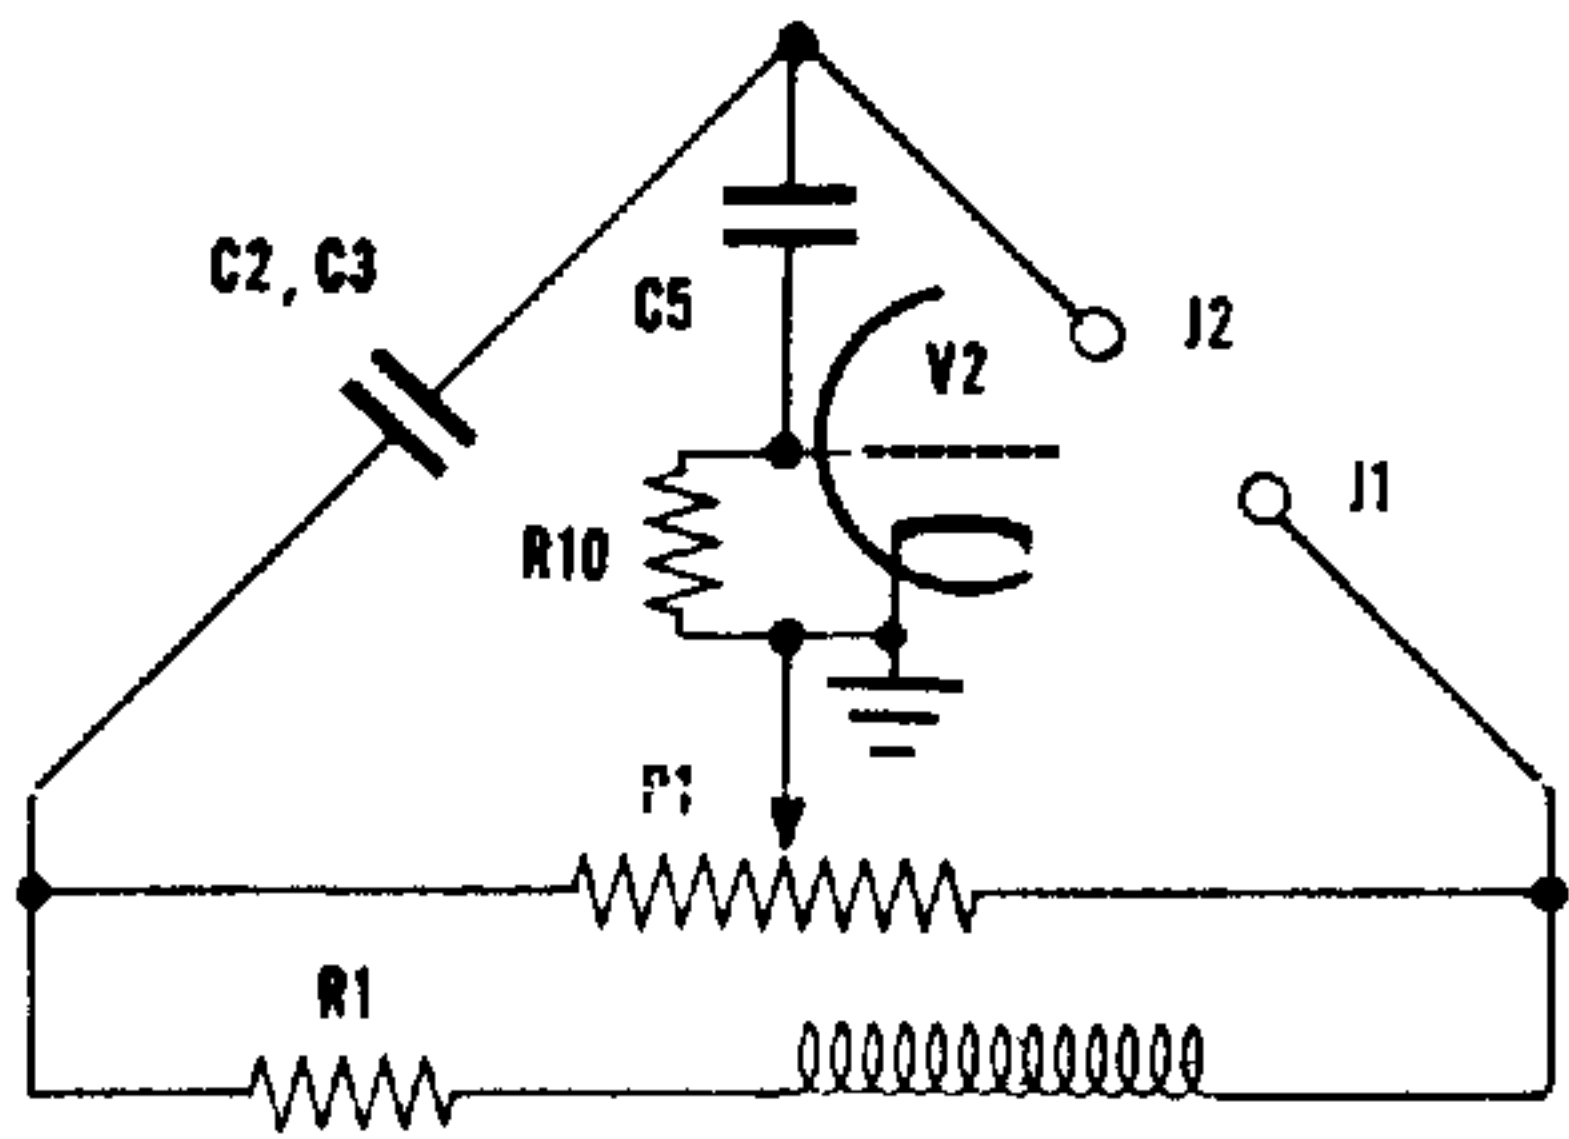

Fig. 1
- Fig. 1. Bridge circuit for "10 mmfd - 5000 mmfd" range (C2) and ".001 mfd-.5 mfd" range (C3).